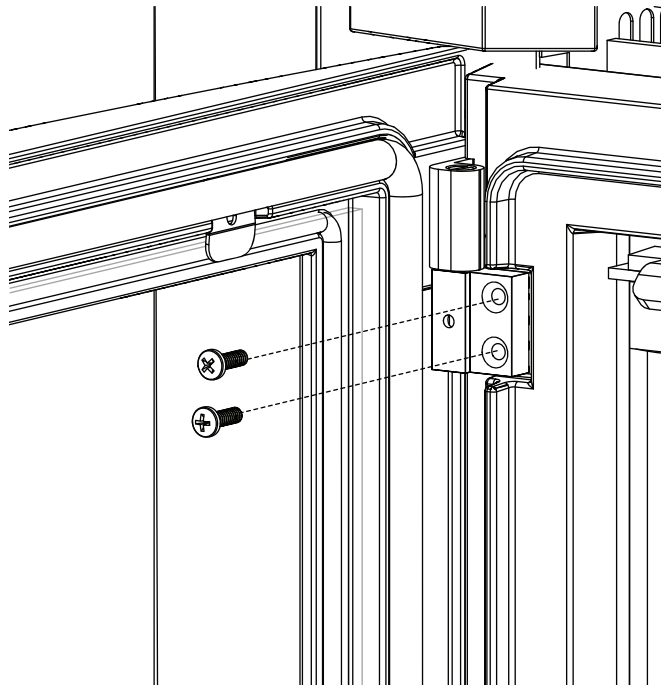

Fig. 1
To remove door, remove the 2 screws from both top and bottom hinges (FIG. 1).
- To reinstall the handle support, align the top and bottom screw holes of the latch block to the top and bottom screw holes of the door (FIG 1).
- Loosely tighten the top screw and install the 2 pins (FIG 1).
Ensure the retainer has the dimple facing upwards (**Fig. 1**).